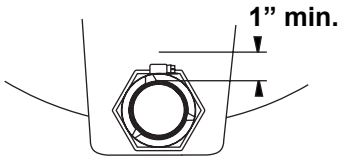

Fig. 8
1. In order to fill the tank from a standing source, you must have water in the tank at a minimum of 1" above the outlet pipe (Fig. 8). If you do not have a sufficient amount of water in the tank, you will need to fill the tank from a pressurized source; see **PRESSURE FILLING THE TANK**.